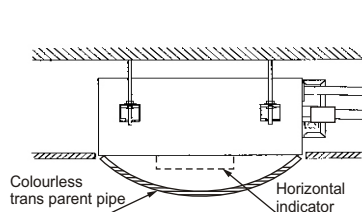

Fig.18
- Use the transparent hose filled with water to check the lever of the main body from the four sides or diagonal line direction, the lever indicator also can check the lever from four sides of the main body. (Refer to Fig.18)